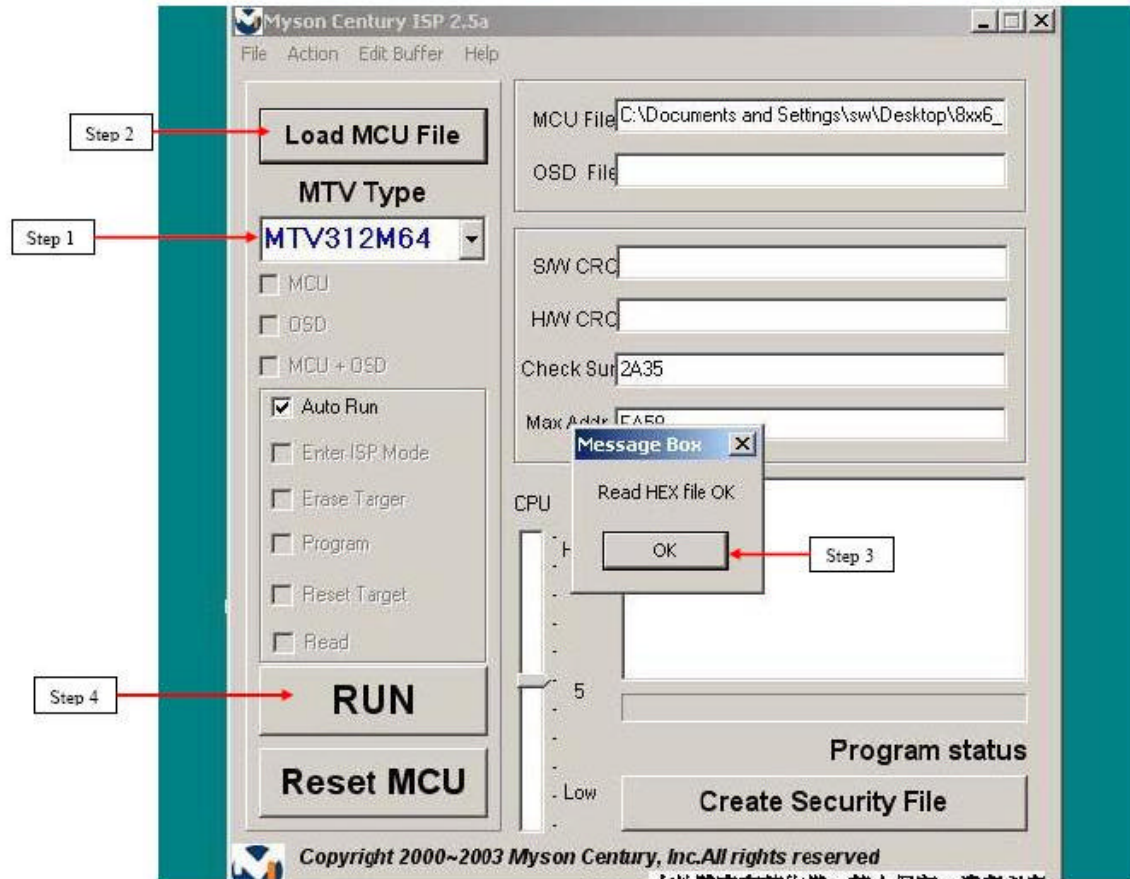

Fig. 3.1
3.1 Select MTV type first , load the binary or intel hex file that you want to program into the MCU , and select “ AUTO” item , then press “ RUN “ button , see fig3.1